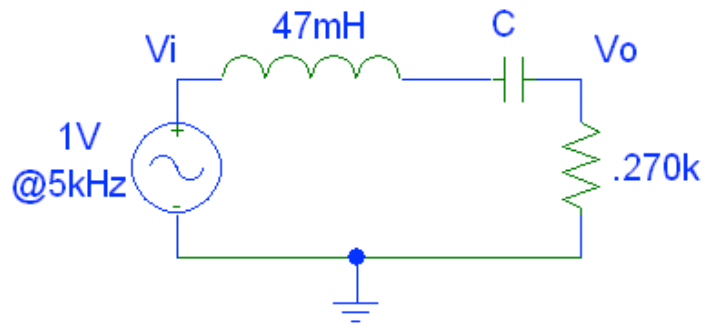

Figure 5: RLC Circuit
1. Construct the RLC circuit shown in Figure 5.